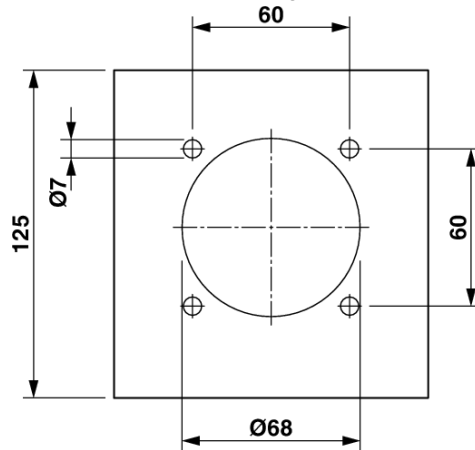

Figure 8-2 Panel breakthrough design
3. Create a panel breakthrough in accordance with Figure 8-2.